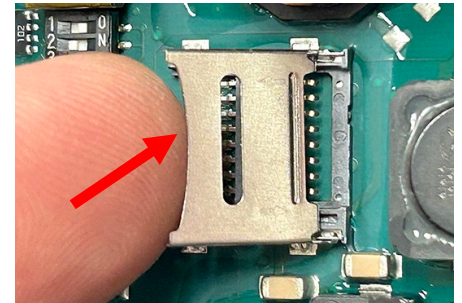

Figure 10
13. Gently lift the lock and flip all the way open (see Figures 10 & 11).